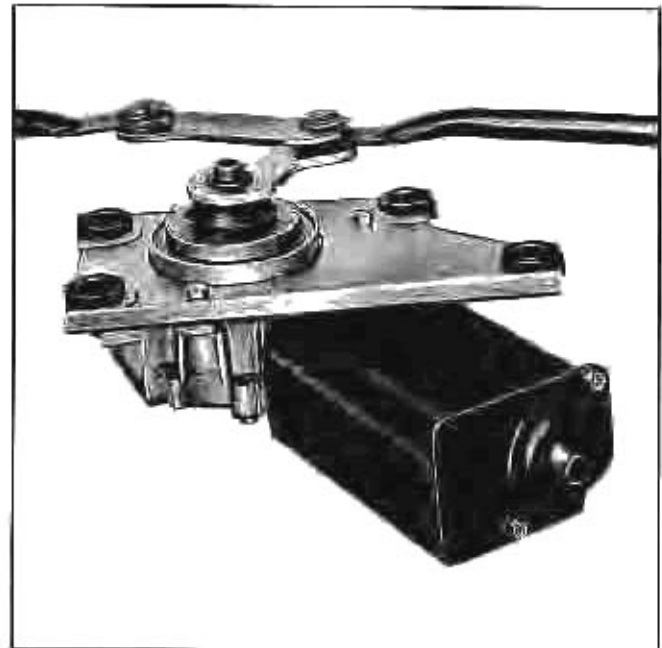

Fig. 11-104 Crank Assembly
7. Install crank arm in position as shown in Fig. 11-104.